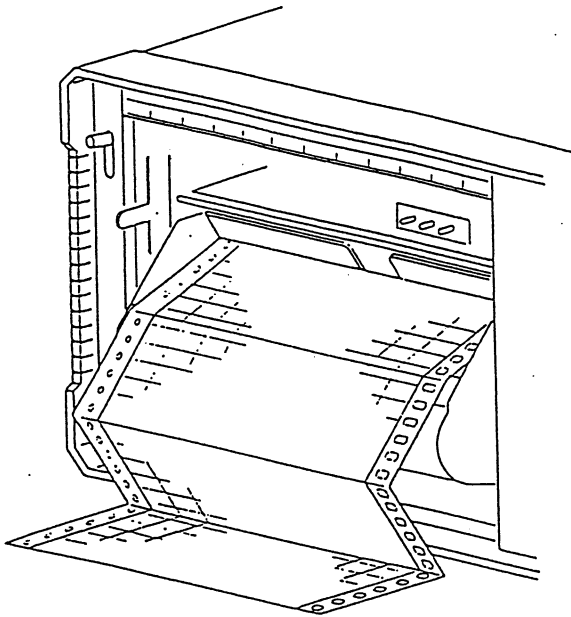

Fig. 3 - 7
- (d) Restore the recording paper holding block to the original position while pushing it up. At this time, the holder will be completely locked by returning to the original position in a little forcibly (Fig. 3- 8)